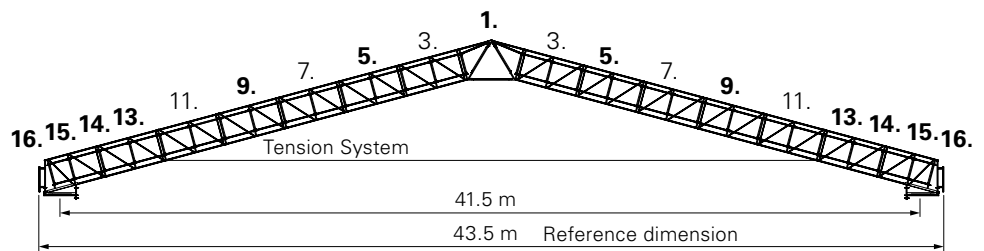

Fig. B1.05b
- 1st Basic Element (Fig. B1.05b)